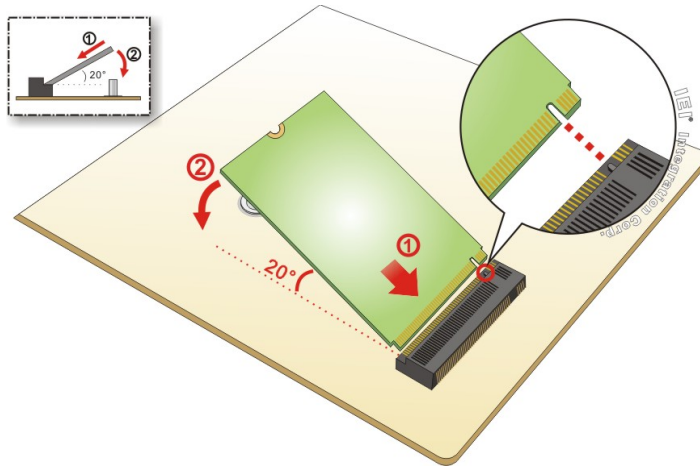

Figure 4-2: Inserting the M.2 Module into the Slot at an Angle
- Step 2:** Line up the notch on the module with the notch on the slot. Slide the M.2 module into the socket at an angle of about 20° (**Figure 4-2**).